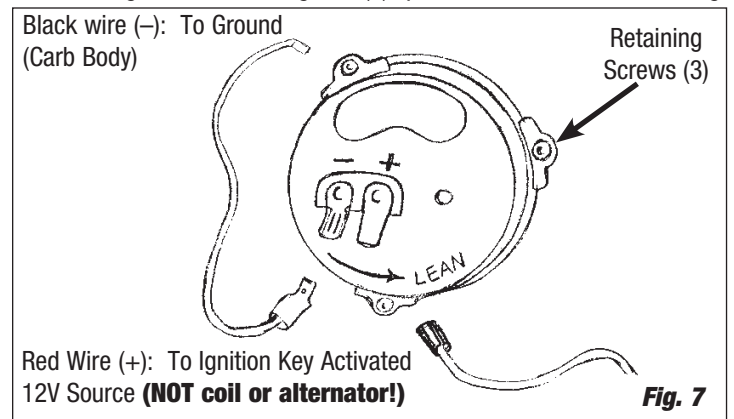

Fig. 7
3. On electric choke models (See Fig. 7), remove one choke housing retaining screw and install eyelet end of choke ground wire (black) to the choke housing, and reinstall the screw. Connect clip end of choke ground wire to negative (-) spade terminal on choke housing.
- Manual choke: Connect manual choke cable to the choke lever cable mounting bracket (See Fig. 9). Electric choke: Connect the red choke wire to a 12 volt positive (+) source that is activated by the ignition switch (**Not the coil or alternator; see Fig. 7).**